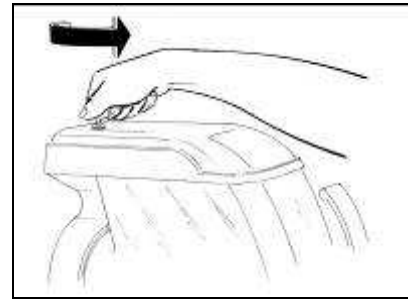

Fig. 10
- After unlocking the main cover with its key (fig.10), remove the main cover and the secondary one under it (fig.11).